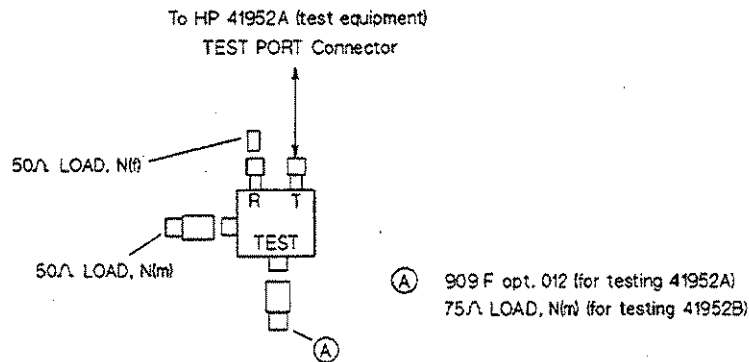

Figure 4-5. REFLECTED connector Port Match Test Setup
- Connect the HP 85032B's N(f) LOAD standard to the INCIDENT (R) connector of the HP 41952A/B (under test), as shown in Figure 4-5.
- Connect the REFLECTED (T) connector of the HP 41952A/B (under test) to the TEST PORT connector of the HP 41952A (test equipment).